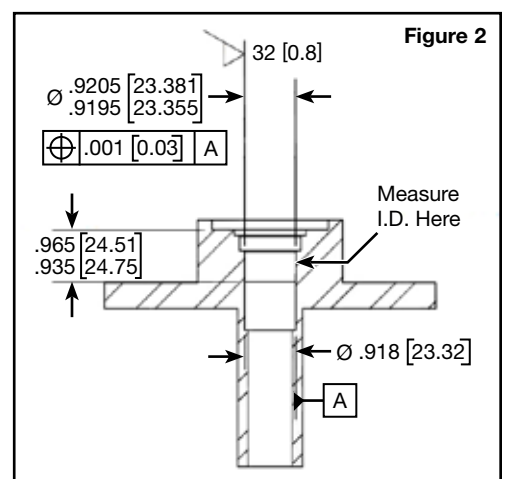

Figure 2
- d. For 6F35 units only, machine stator support tube to specification (**Figure 2**). The higher side of this tolerance is ideal.